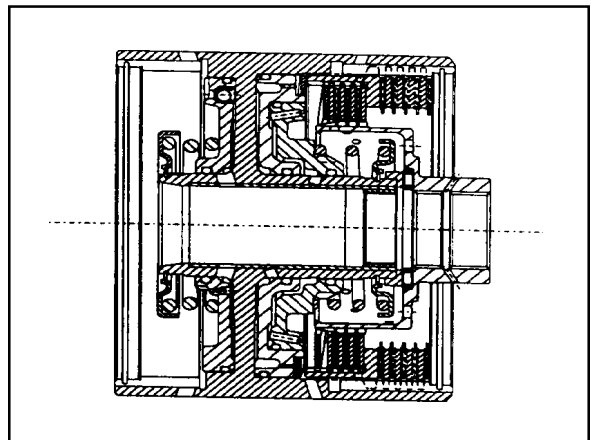

Figure 8.24 - Typical C2/C4 Clutch Assembly
To assemble the C2/C4 clutch assembly (refer to figure 8.24), proceed as follows.
34. Fit the thrust plate over the cylinder inner hub. Refer to figures 8.24 and 8.19.